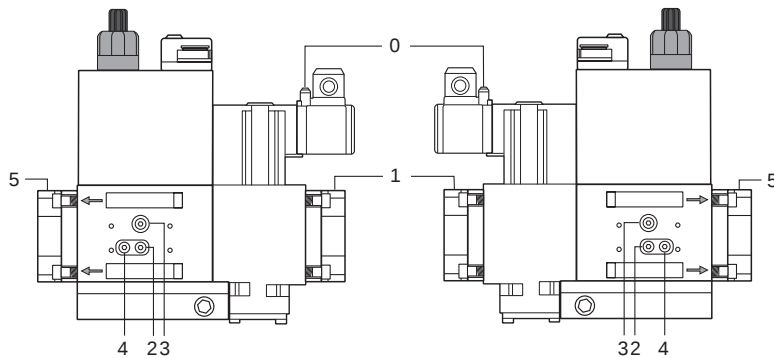
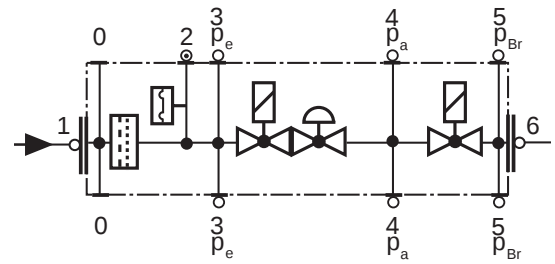

Fig. 46
Fig. 47
- Change the filter if the pressure difference between pressure connection 1 and 2 (Fig. 46-Fig. 47) $\Delta p > 10$ mbar.
- Change the filter if the pressure difference between pressure connection 1 and 2 (Fig. 46-Fig. 47) is twice as high compared to the last check.